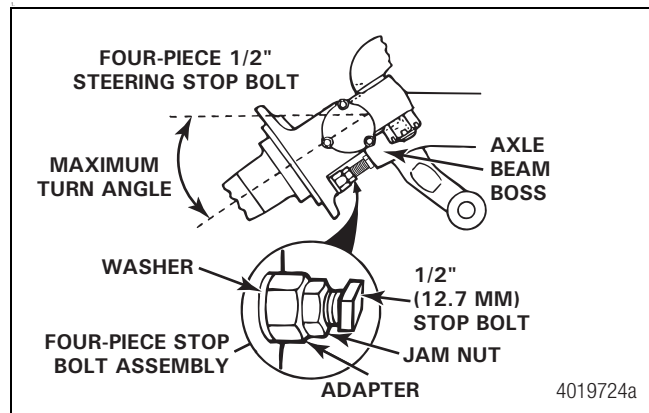

Figure 7.8
- Place the washer onto the adapter. Figure 7.8.